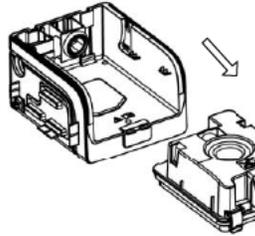

Fig. 5-2
(2) Cleaning the Water Chamber: Wash the two parts of the water chamber, as shown in Fig.5-2. You may also clean them with a scouring pad (dip the scouring pad in washing liquid if necessary), rinse them thoroughly, and then wipe them dry with a soft cloth.